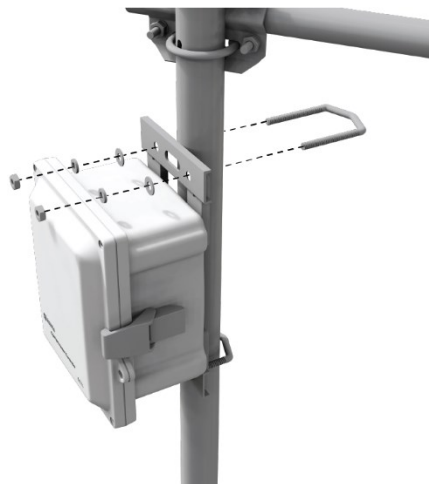

Figure 6-4. Mounting the CSAT3H to tripod mast
2. Mount the CSAT3H heater controller box to a tripod mast or other vertical structure using the U-bolts, flat washers, split washers, and nuts as shown in Figure 6-4 (p. 33).